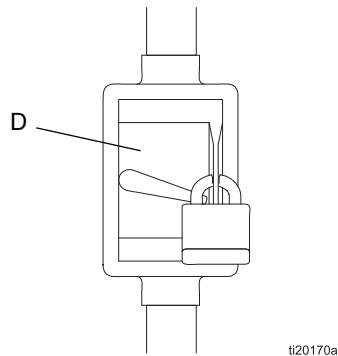

FIG. 6 Locked out disconnect example
1. Ensure that the electrical disconnect (D) is shut off and locked out. See FIG. 6.